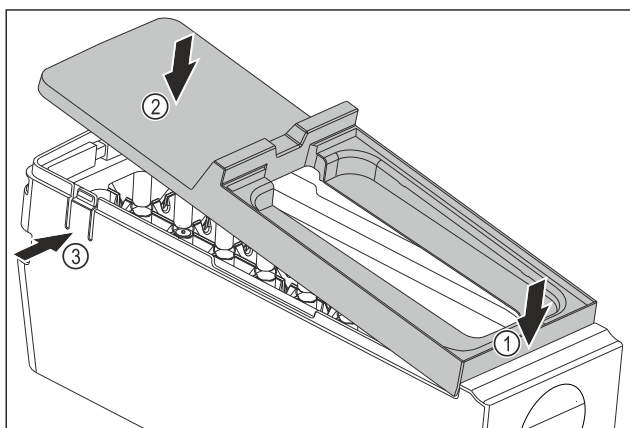

Fig. 88
- Installing the EasyTwist-Ice body cover: Place the cover on the front. Fig. 88 (1)
- Lower the cover at the rear. Fig. 88 (2)
- ▷ The cover locks into both tabs Fig. 88 (3) audibly.